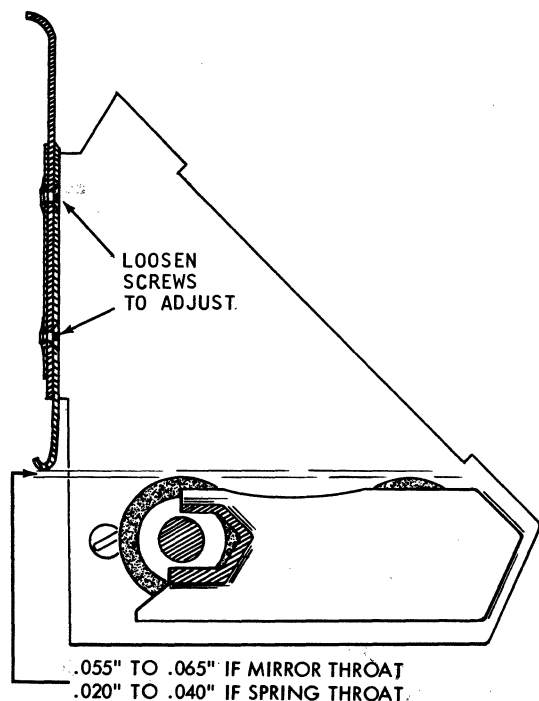

Figure 3-7. Lower Magazine Throat Adjustments
6. If flat springs are used, the lower magazine throat should be .020" to .040" above an imaginary plane determined by the tops of feed rolls. If throat is formed from mirror plate it should be set at .055" to .065" above feed rolls. See Figure 3-7.